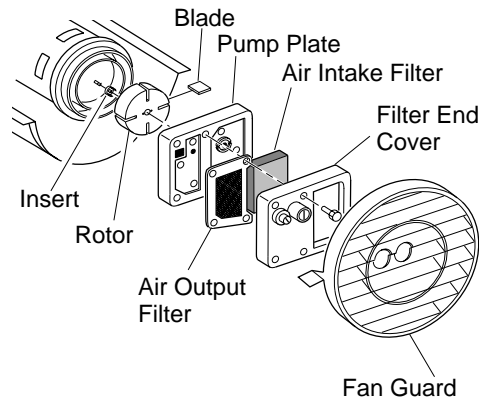

Figure 16 - Rotor Location
3. Remove filter end cover and air filters (see Figure 16).